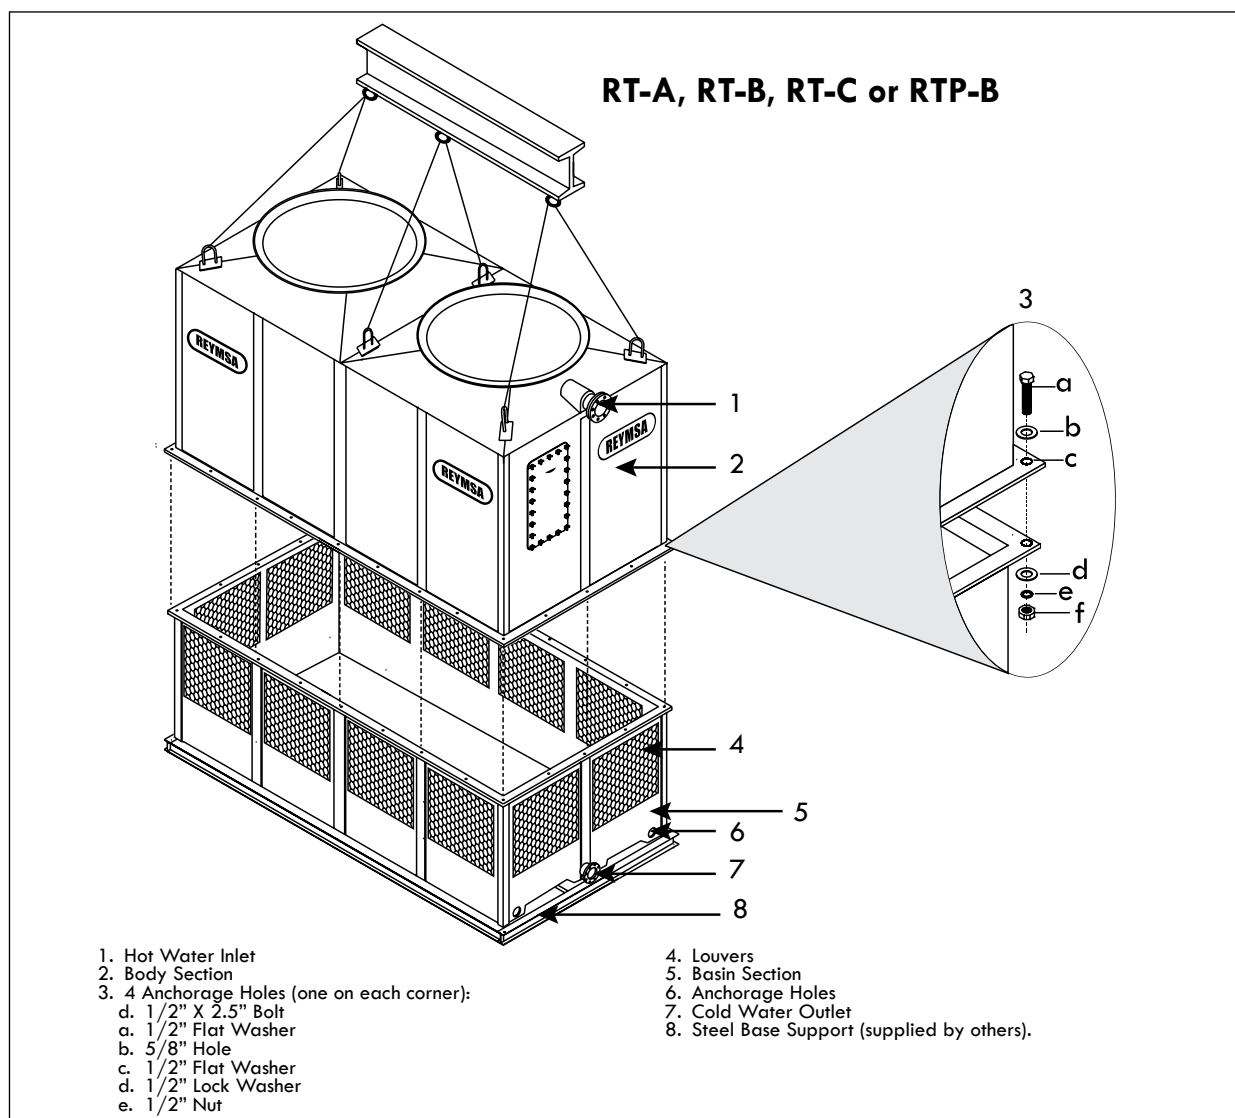

Figure A-17: Body and basin sections installation for a Two Fan Tower (RT-A, RT-B, RT-C, RTP-B)
- L.** Assemble the body section (Upper Body section for RT-D or RTP-D) with the basin section (Lower Body section for RT-D or RTP-D). The body section comes assembled with u-bolts for lifting; then using a crane assemble both parts, use a drift pin to align bolt holes as the sections are being set (See figure A-17 and A-20). Make sure that the hot water inlet, and the cold water outlet are on the same side of the Tower when assembled.